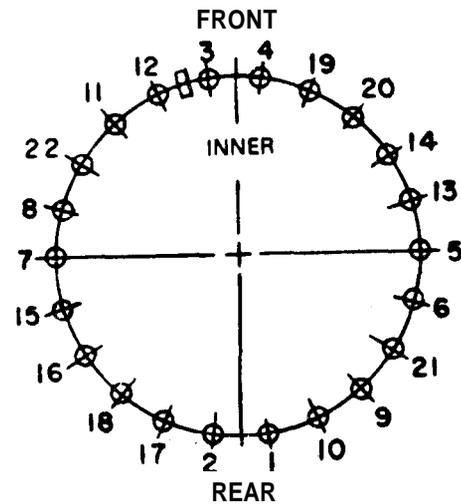

Figure 15-2
2. Install 22 capscrews (3, Figure 15-1) and torque to 722 lb-ft (979 N•m) in sequence shown in Figure 15-2.